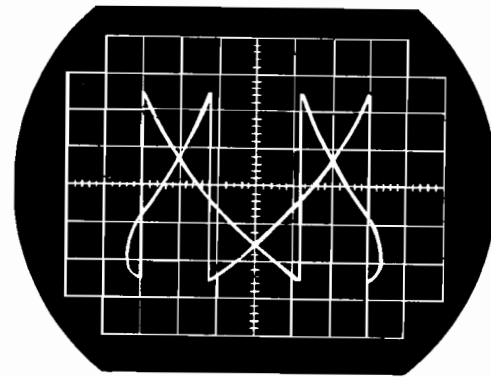

Fig. 18 Lissajous waveform
6. Adjust VR₁ of the MPX AF assembly to stop the Lissajous waveform in the oscilloscope (see Fig. 18).